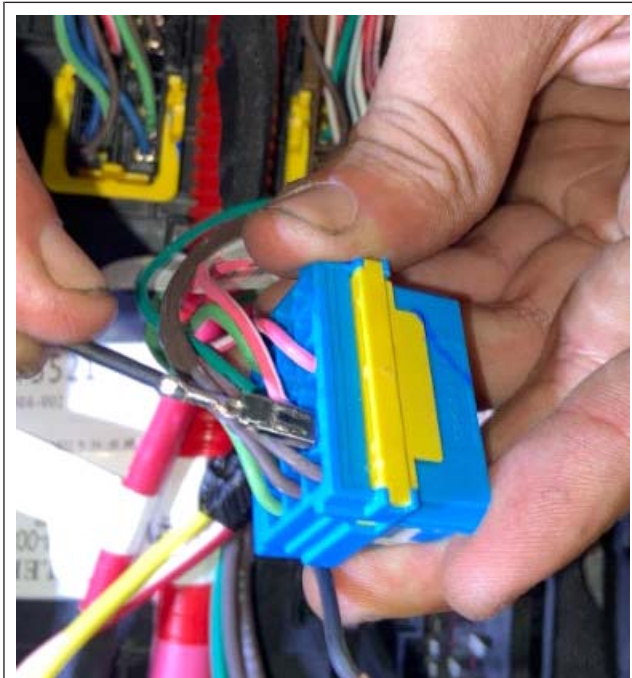

Fig. 29, Inserting the Shorter Black Wire into Cavity 6 of the X2 Connector
- 9.4 Insert the shorter black wire, previously routed to the SSAM X2 connector in step 7, into cavity 6 of the SSAM X2 connector. See **Fig. 29**.